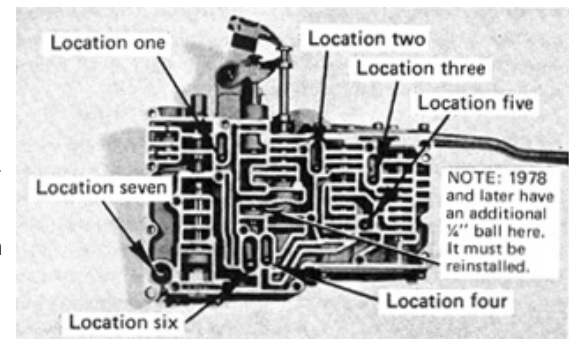

FIGURE 23
STEP 24. Lay the **casting** in front of you and install steel check balls as follows: (See Fig. 23.)